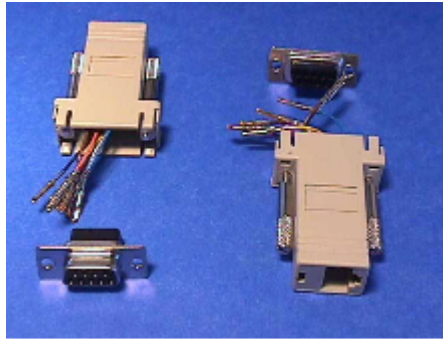

Figure 1. An RJ45 to DB9 Adapter for the SBC's Serial Console Line. Ideally, yours will be assembled!
- a. The Ethernet to Serial Adapter physically connects the wires from the RJ45 connector of the ethernet cable to the pins of a female 9-pin serial connector, as shown in Figure 1 below. See Table 1 for pinouts.